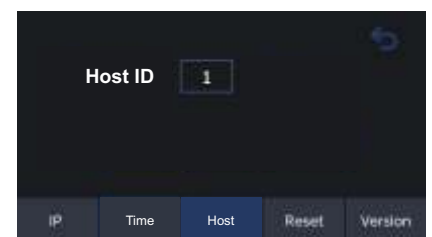

Figure 4.34 Time Setting Message
C. Host: When multiple systems are deployed, the user can assign a unique ID to each host. The system default host ID is 1. (See Figure 4.34).